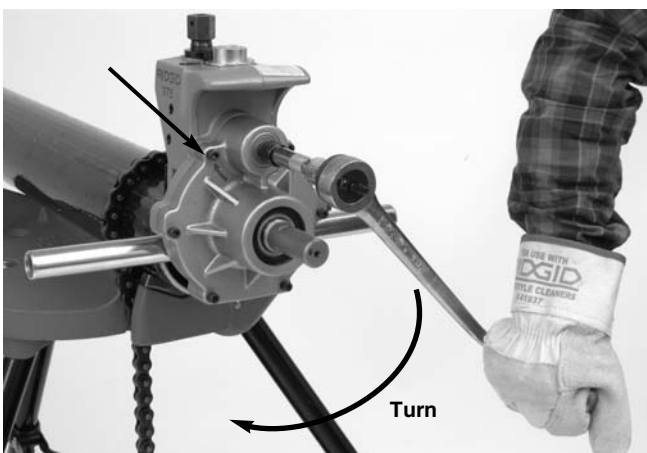

Figure 17 – Turning the Ratchet in the Direction of the Arrows
5. Turn the ratchet clockwise as viewed from the back of the roll groover (this will match the arrows cast into the back of the roll groover, *see Figure 17*). Watch the groover rotate and be sure that the cover plate of the roll groover stays in contact with the end of the pipe. If the roll groover starts to move away from the pipe end, stop rotating the ratchet to prevent the roll groover from spiraling off the pipe end and falling. The roll groover support arms can be pushed on to help bring the cover plate back in contact with the pipe end. If needed, re-mount the roll groover to the pipe. (*see "Mounting Roll Groover to Pipe" section*). If the pipe end is deformed, it will need to be cut off and a new groove prepared.